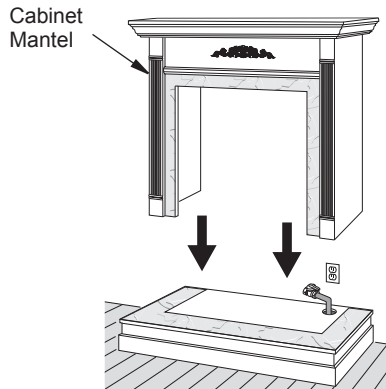

Figure 18 - Installing Cabinet Mantel
2. If using an optional GA3700 blower (FB32CA and NLFB32C models only), install a properly grounded, 120 volt three-prong electrical outlet at firebox location if an outlet is not there. If possible, locate outlet so cabinet mantel will cover it when installed (see Figure 18).
6. Center cabinet mantel on hearth base (see Figure 18). Make sure mantel is flush against wall.